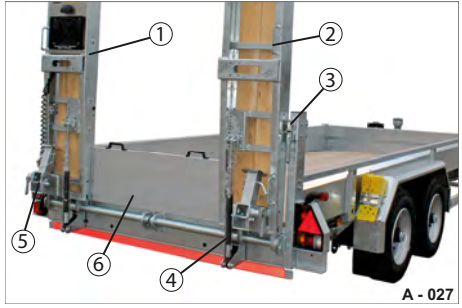

Fig. 29 Drive-up ramps, one-piece
- ▶ Fold down the folding supports (Fig. 29/5) - see from page 79 or 101.
- ▶ If necessary, remove the slot-in gate (Fig. 29/6).
- ▶ Unlock the ramps (Fig. 29/1) - turn to page 108.